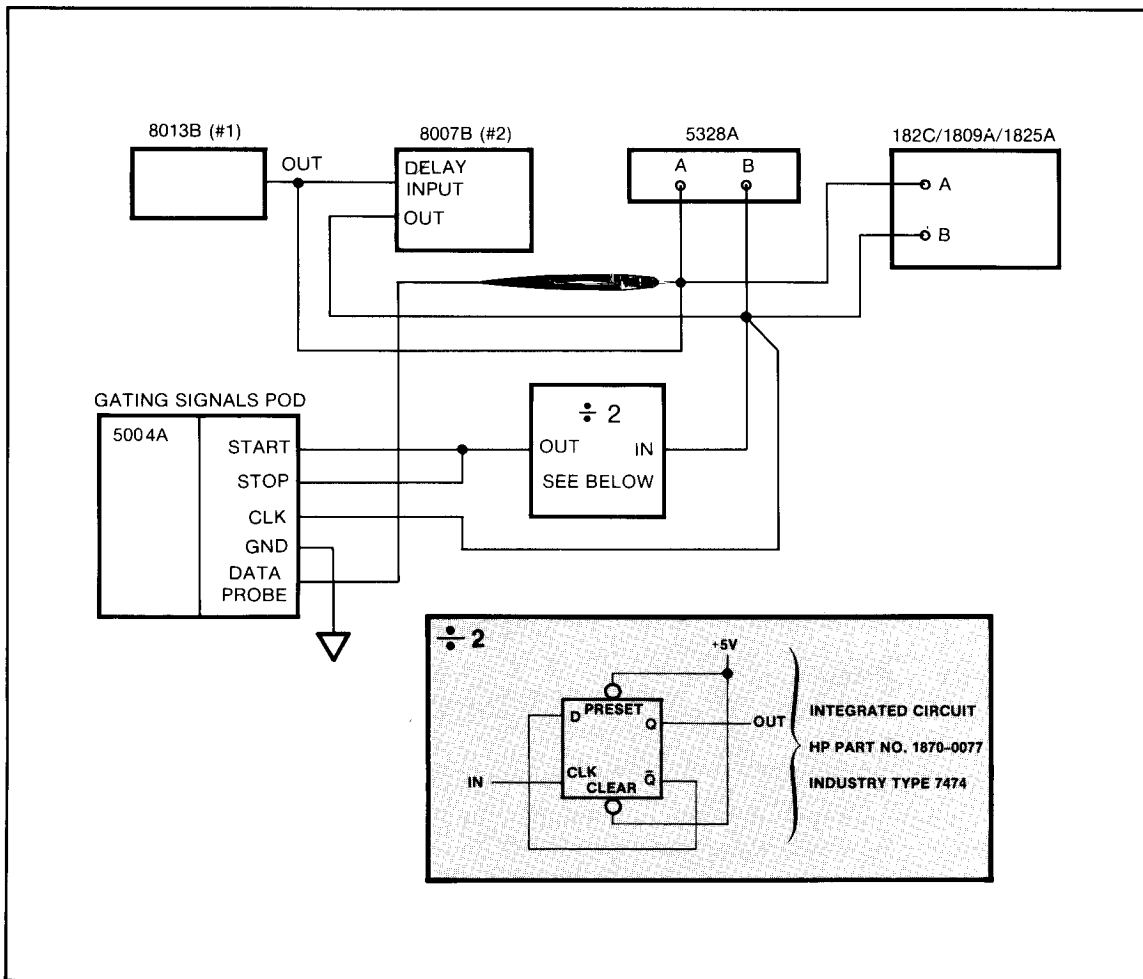

Figure 4-4. Data Probe Setup Time Performance Test
- 4-11. Connect the equipment as shown in *Figure 4-4*. Equipment front panel settings:
4-13. With test equipment connected as in *Figure 4-4*, and settings as in "SETUP TIME PERFORMANCE TEST" proceed as follows: